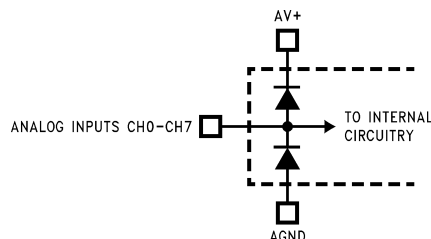

Figure 6.
- (1) Two on-chip diodes are tied to each analog input as shown below. They will forward-conduct for analog input voltages one diode drop below ground or one diode drop greater than V^+ supply. Be careful during testing at low V^+ levels (+4.5V), as high level analog inputs (+5V) can cause an input diode to conduct, especially at elevated temperatures, which will cause errors in the conversion result. The specification allows 50 mV forward bias of either diode; this means that as long as the analog V_{IN} does not exceed the supply voltage by more than 50 mV, the output code will be correct. Exceeding this range on an unselected channel will corrupt the reading of a selected channel. If AV^+ and DV^+ are minimum (4.5 V_{DC}) and full scale must be $\leq 4.55\text{ V}_{DC}$. See Figure 6
- (2) No connection exists between AV^+ and DV^+ on the chip. To ensure accuracy, it is required that the AV^+ and DV^+ be connected together to a power supply with separate bypass filter at each V^+ pin.
- (3) One LSB is referenced to 10 bits of resolution.
- (4) All the timing specifications are tested at the TTL logic levels, $V_{IL} = 0.8\text{ V}$ for a falling edge and $V_{IH} = 2.0\text{ V}$ for a rising. TRI-STATE voltage level is forced to 1.4V.
- (5) Typicals are at $T_J = T_A = 25^\circ\text{C}$ and represent most likely parametric norm.
- (6) Tested limits are ensured to AOQL (Average Outgoing Quality Level).
- (7) Total unadjusted error includes offset, full-scale, linearity, multiplexer, and hold step errors.
- (8) The DC common-mode error is measured in the differential multiplexer mode with the assigned positive and negative input channels shorted together.